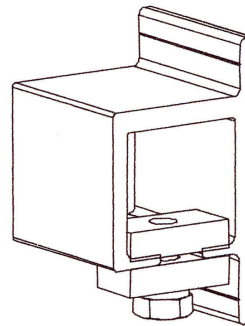

Figure 8
10. Stand the gate upright, being careful not to twist the gate or cause the track to bend. This is most easily accomplished by lifting the top of the gate at two or more equally divided locations (not at the ends) and leaning it against a rigid structure. Keeping the gate upright without twisting, move the gate so that the trailing edge is in line with the first post (closest to the opening); then lift the end of the gate so that the upper and lower track raceways slide onto the first set of truck assemblies. Raise the opposite end of the gate and continue sliding the gate until it engages the second set of truck assemblies. Continue to slide gate to the half-open position. Install gate stops in the raceway of the track on the leading and trailing edges of gate. See Figure 8.